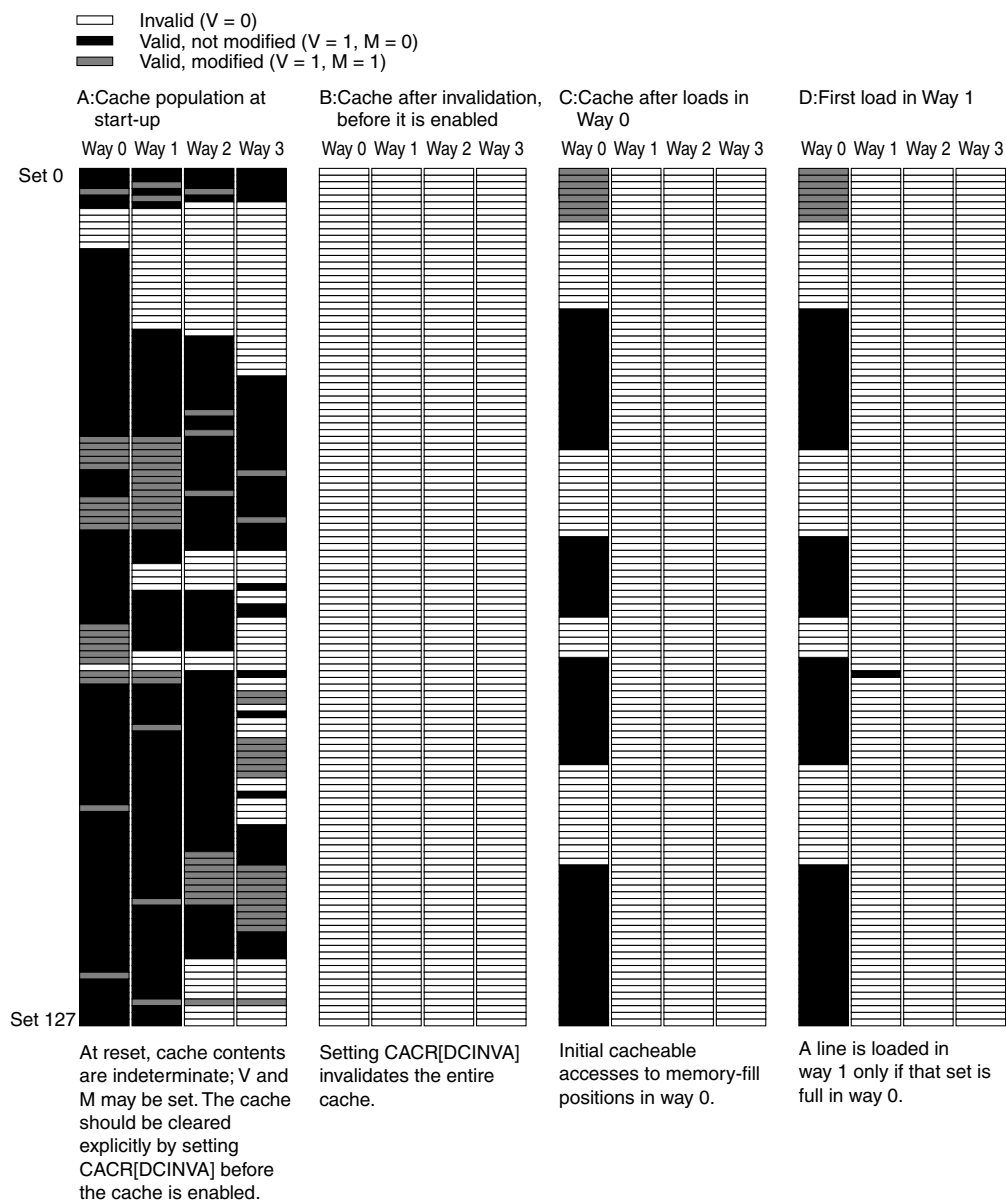

**Figure 4-4. Data Cache—A: at Reset, B: after Invalidation, C and D: Loading Pattern**
As Figure 4-4 (A) shows, after power-up, cache contents are undefined; V and M may be set on some lines even though the cache may not contain the appropriate data for start up. Because reset and power-up do not invalidate cache lines automatically, the cache should be cleared explicitly by setting CACR[DCINVA,ICINVA] before the cache is enabled (B).
After the entire cache is flushed, cacheable entries are loaded first in way 0. If way 0 is occupied, the cacheable entry is loaded into the same set in way 1, as shown in Figure 4-4 (D). This process is described in detail in Section 4.9, “Cache Operation.”
Reset disables the cache and clears all CACR bits. As shown in Figure 4-4, reset does not automatically invalidate cache entries; they must be invalidated through software.